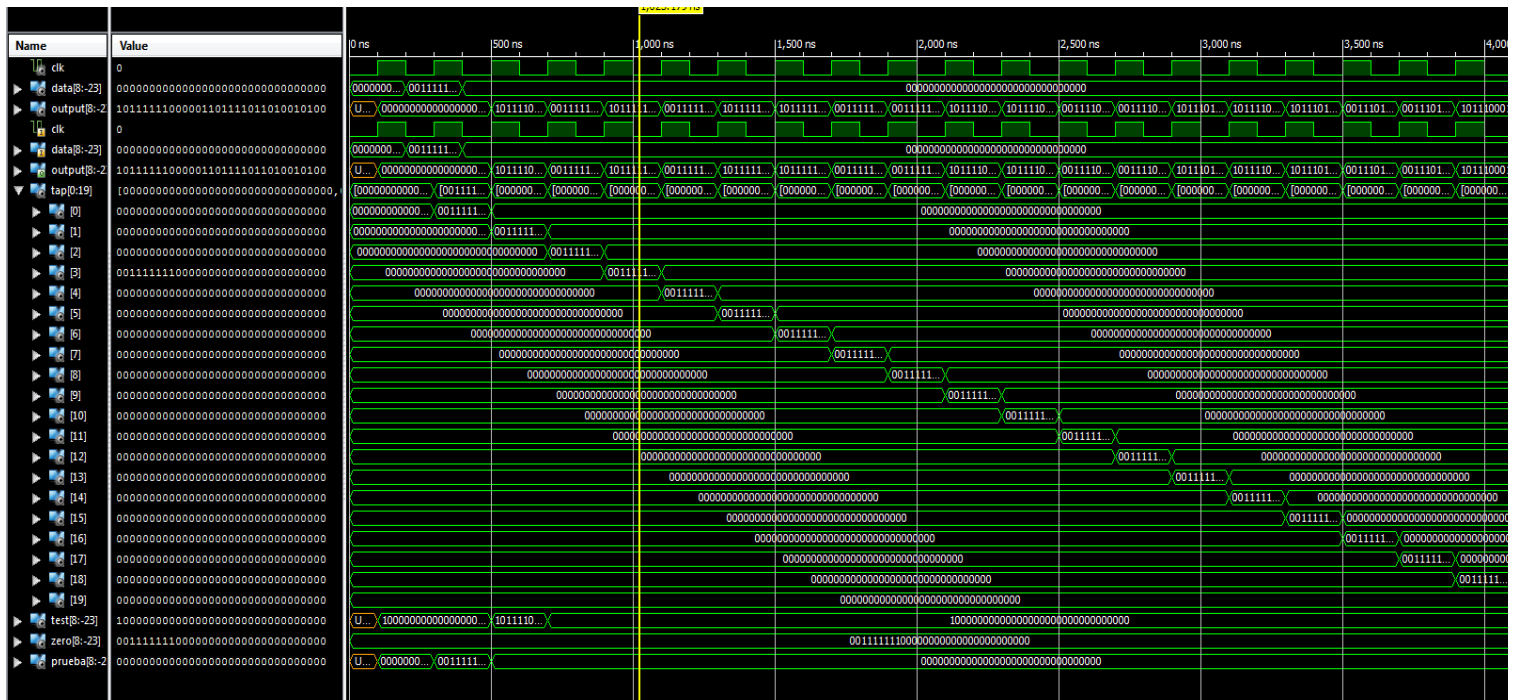

Figure 24. Detail of filters modules.
- **Filters:** in this case we are including both, high pass filter and low pass filter. In Figure 24 we can see how the filter works, in both case the behavior of the filter is the same and the only difference between both of them is that the filter values depend from filter to filter.